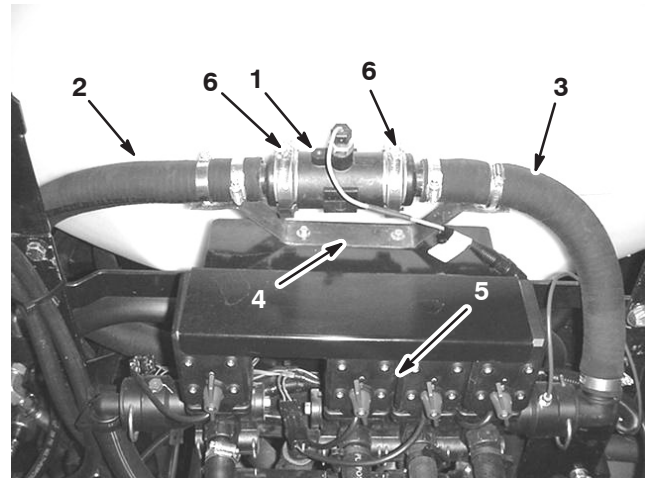

Figure 2
1. Disconnect the boom supply hose fitting from the boom valve assembly (Fig. 2).
8. Assemble the gaskets and barbed fittings on the hoses to the flowmeter using 2 worm screw clamps (Fig. 2).
Important Note the direction of the flow on the side of the flowmeter and ensure that the flowmeter is installed properly (Fig. 2).
10. Secure the supply hoses to the flowmeter mounting bracket with 2 hose clamps (Fig. 2).